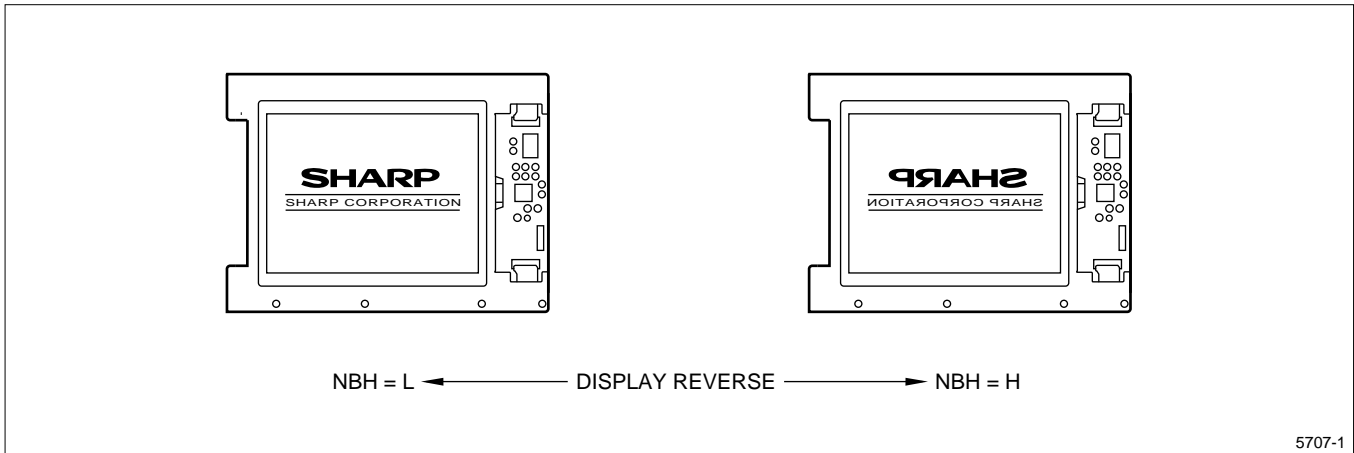

Figure 2. Display Mode
- See Figure 2 for Display Mode.